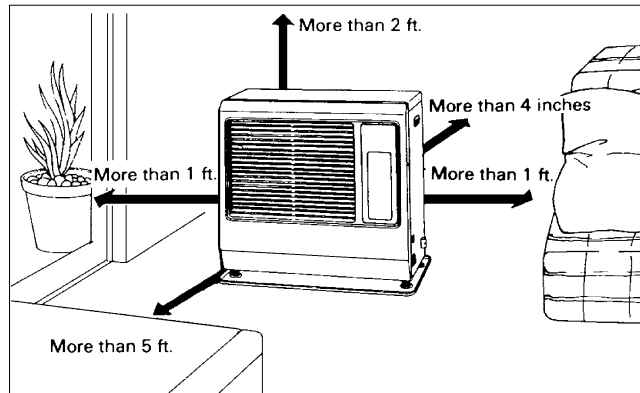

Fig. 1
When using the "Extension pipe (L)" extension kit, the distance between the heater exhaust pipe connection and the flue pipe connection must be at least 63-5/8 inch but no more than 80-1/2 inch. (See Figure 1 for reference.)
(See Fig. 1)